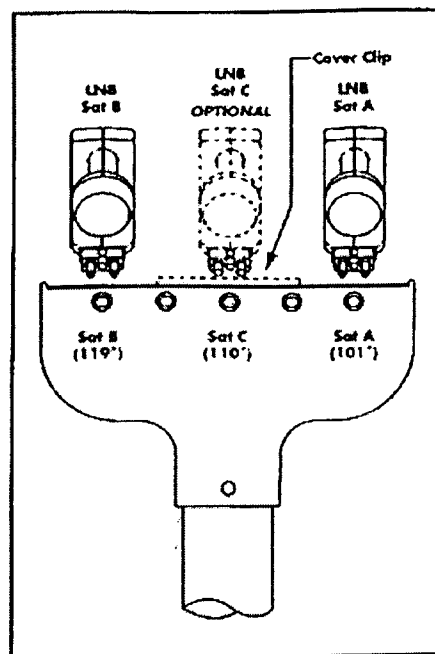

FIGURE 8
13. If Optional "Sat C" LNB is not used, install Cover Clip in the Plastic LNB Adapter in the empty space between Sat A and Sat B LNBs before mounting LNBs. See Figure 8.
17. Repeat Step 16 for inserting the two coaxial cables (labeled "Sat B" on both ends) in the other side of the feed tube and connect to the second LNB that will be mounted in position marked "Sat B". Tighten all cable connectors on both LNB's. See Figure 8.